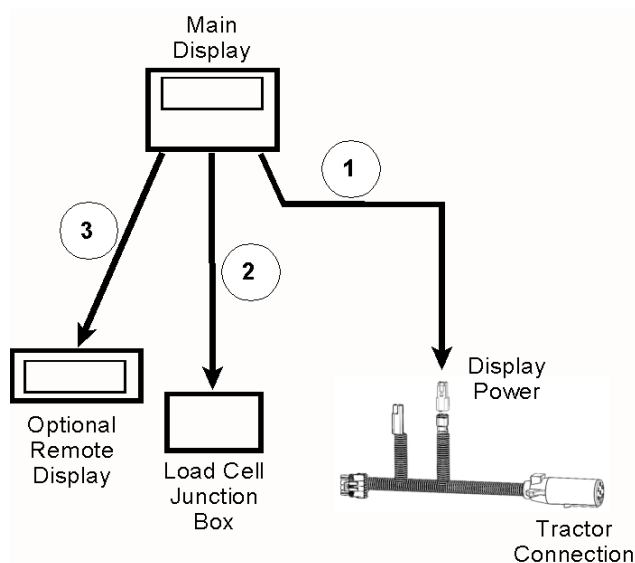

Figure 3: Connection Arrangement for the Display
Follow **Figure 3** throughout this section.
5. If an optional remote display is present, connect it to the Auxiliary port on the main display, as shown in **Figure 3**.